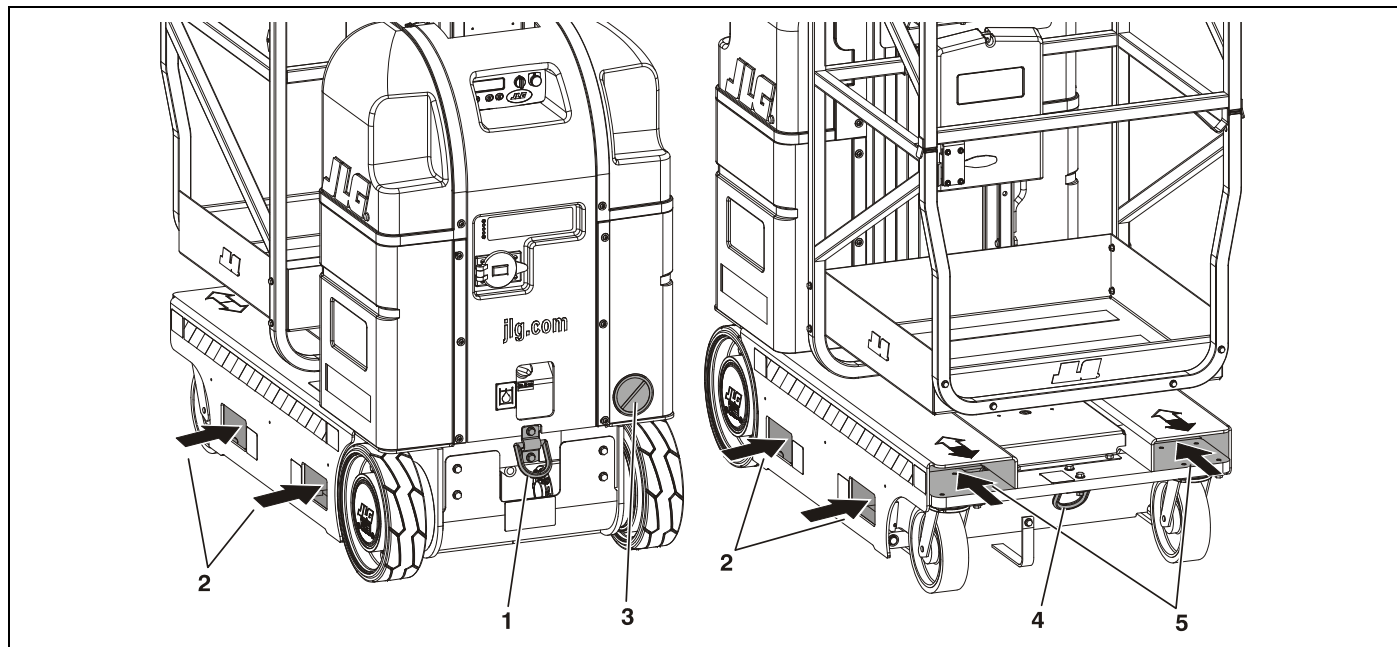

Figure 3-6. Forklift Truck Lifting Pockets and Machine Tie Down Loop Locations.
1. Secure machine with an adequate chain attached through the tie down loops located at the front and rear of machine. (See Figure 3-6.)
All MVL and MSP Model Lifts are equipped with wide fork-lift pockets running the length of the base frame and also through the sides of the base. (See Figure 3-6.) This allows the machine to be either transported around a work area or lifted onto a higher level using a standard fork-lift truck.